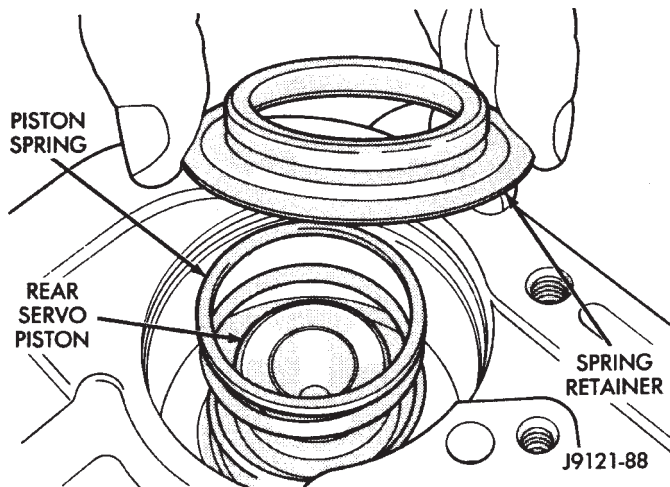

Fig. 130 Installing Rear Servo Piston Spring And Retainer—46RH
(3) Install rear servo spring and retainer in case bore (Fig. 130). Be sure spring is seated on piston.